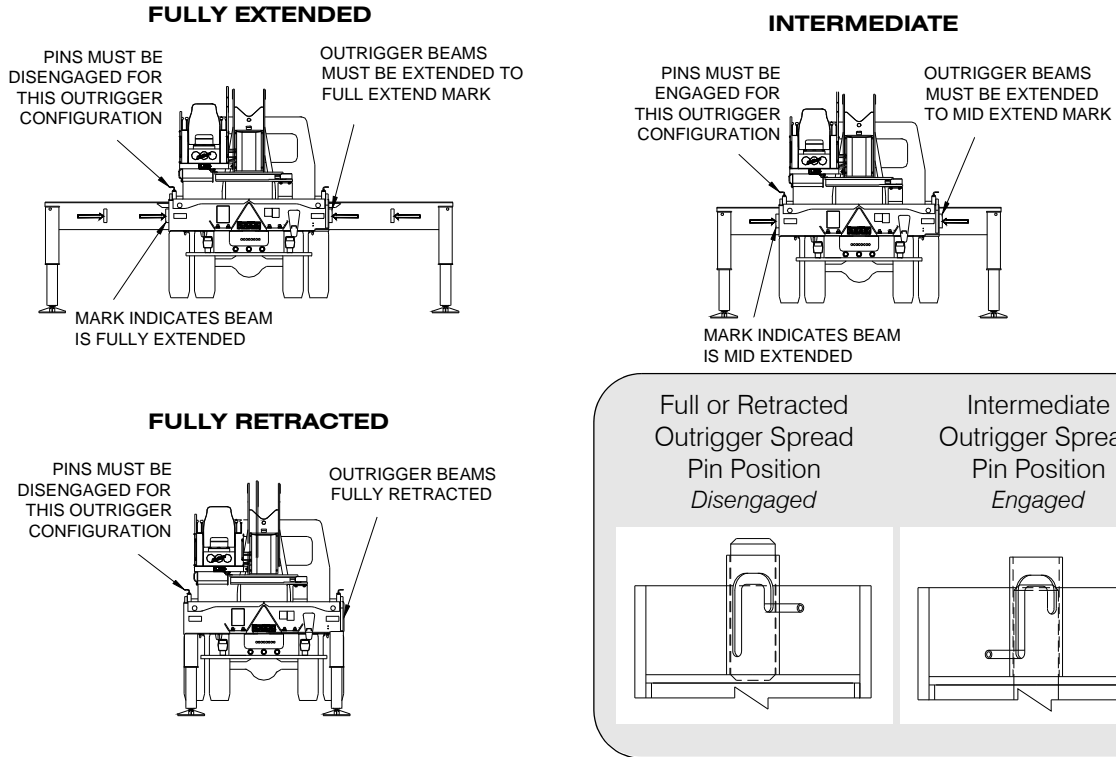

Figure 1-3 Outrigger Pin Positions and Configurations for Single-Stage Outriggers
Before setting the outriggers, ensure that the Outrigger Pin for each outrigger is in the stowed position with the pin resting in the *upper* part of the slot as shown in Figure 1-3 or 1-4.
Before setting the outriggers, lower the Outrigger Pin to the *lower* position in the slot as shown in Figure 1-3 or 1-4.
**Step 1** Ensure that the outrigger pin is in the correct position for the desired outrigger spread configuration before extending the outrigger beams. Refer to Figures 1-3 and 1-4 for illustrations of the various outrigger configurations.